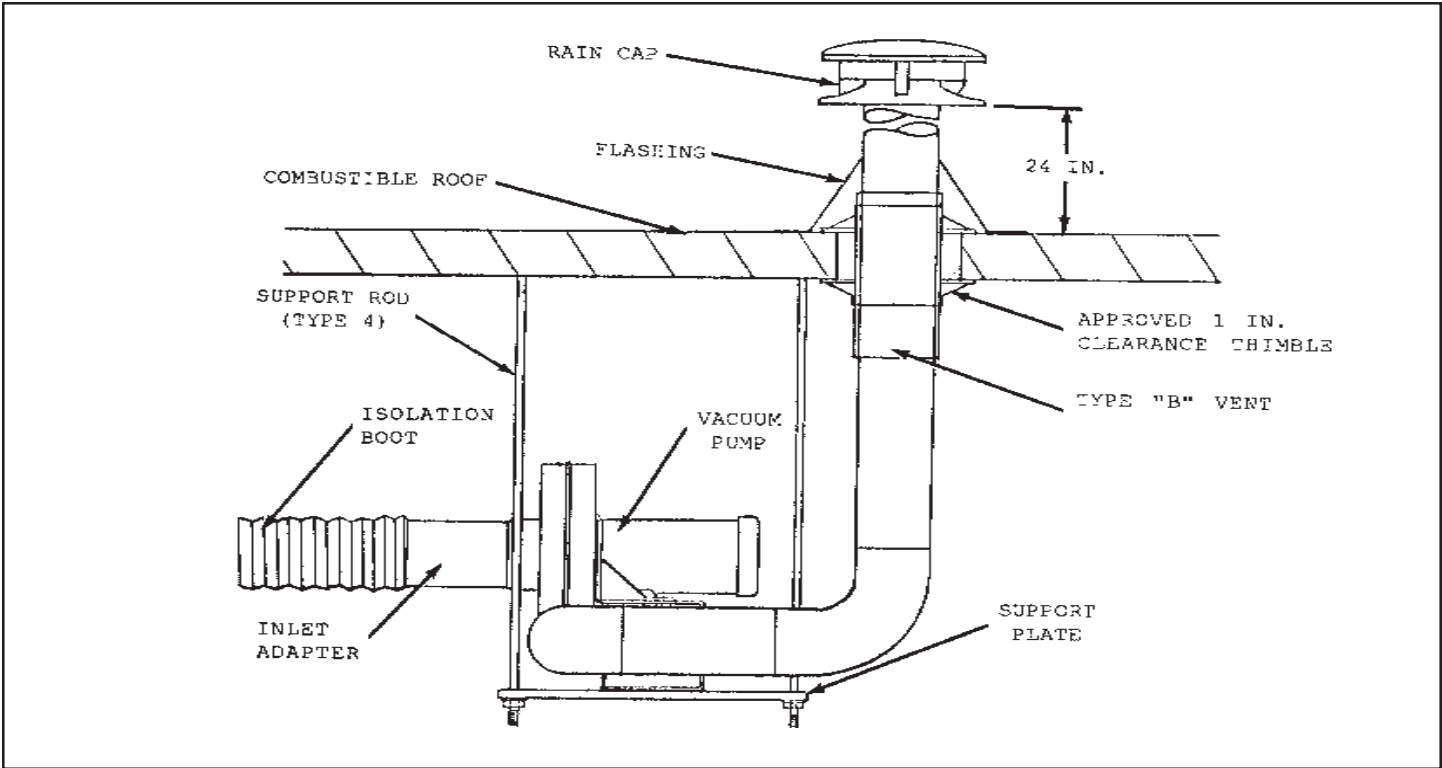

Figure 2.18
- Vertical vents which exit through the roof should be at least 2 ft. higher than any portion of the building within a horizontal radius of 10 ft. of where it passes through the roof of the building (see Figure 2.18). A standard rain cap may be used to shield the vent.